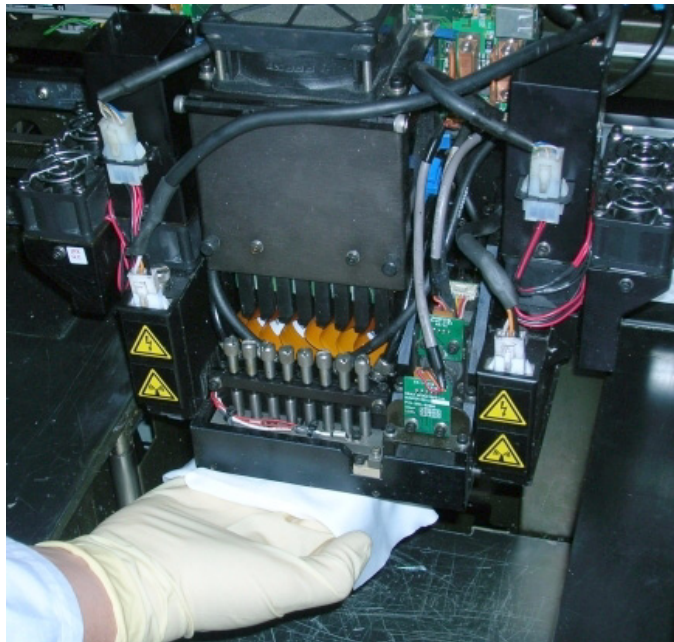

Figure 7-20:Cleaning the heads
9. Clean the orifice plates, with a back-and-forth motion (see figure 7-20). Use the mirror to make sure that you have removed all of the debris.